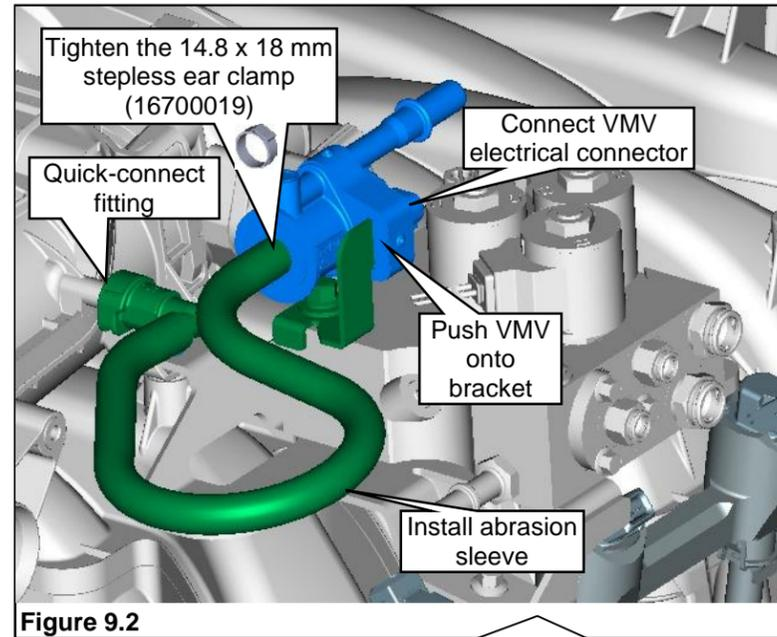

Figure 9.2
6. If not done, slide an abrasion sleeve onto the vapor hose before installation. **Figure 9.2.**
7. Position the VMV with new vapor hose assembly to the bracket. Slide the VMV onto the bracket until secure. Plug the vapor hose assembly quick-connect fitting onto the port of the throttle body adaptor. Use a crimping tool to tighten the stepless ear clamp after the assembly is installed and correctly oriented. Refer to *Special Tools* for more information. Connect the OEM electrical connector to the VMV. **Figure 9.2.**